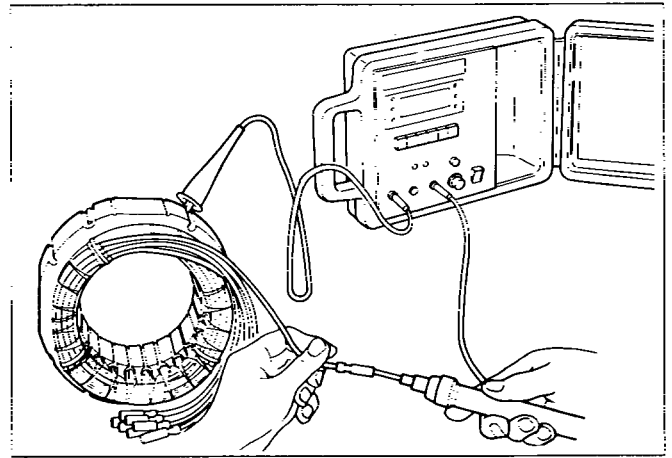

Fig. 11-3
- 3) Check the insulation resistance between stator core and each stator lead using a Dr. Robin generator tester in megger tester mode or a megger tester. (Fig. 11-3)